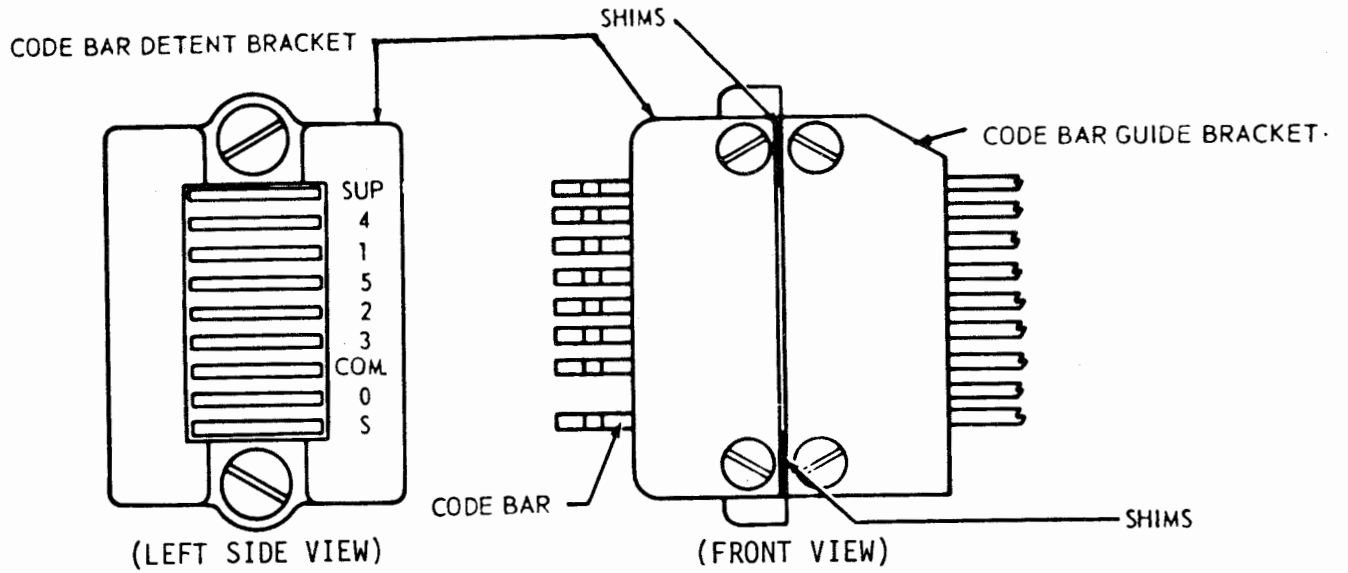

Figure 6-1. Code Bar Detent
- (a) Refer to figure 6-1.
(2) Code Bar Detent Spring. Adjust code bar detent spring tension as follows: